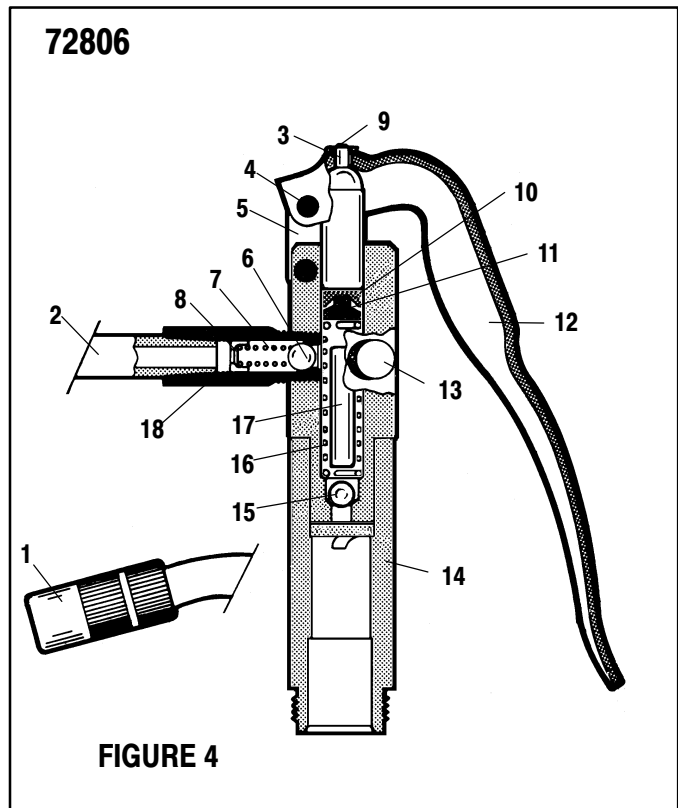

FIGURE 4
- If the pump fails to operate, check the (14) rod and piston assembly and (12) inner tube for damage or obstructions.
- If pump operates, but does not dispense lubricant. Check the (8) ball to see if it is clean of foreign particles that will keep it from seating properly. Also check the ball seat of the (12) tube for damage due to dents or nicks.
- If grease leaks from Booster Gun outlet the ball is probably not seating properly. Remove (2) pipe, using a screwdriver remove the (8) retainer, remove the (7) spring and the (6) ball can now be removed. Thoroughly clean the ball and ball seat etc. Reassemble (See figure 4).